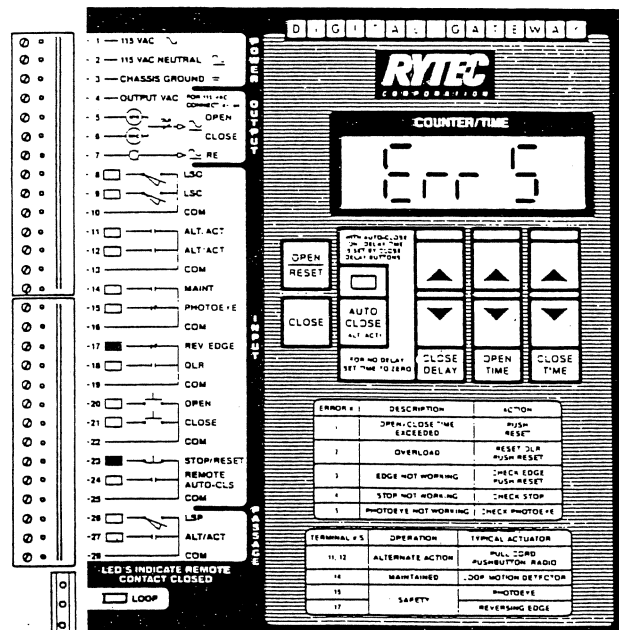

Figure 15.
7.5 Error 5 (Err 5) — see Figure 15